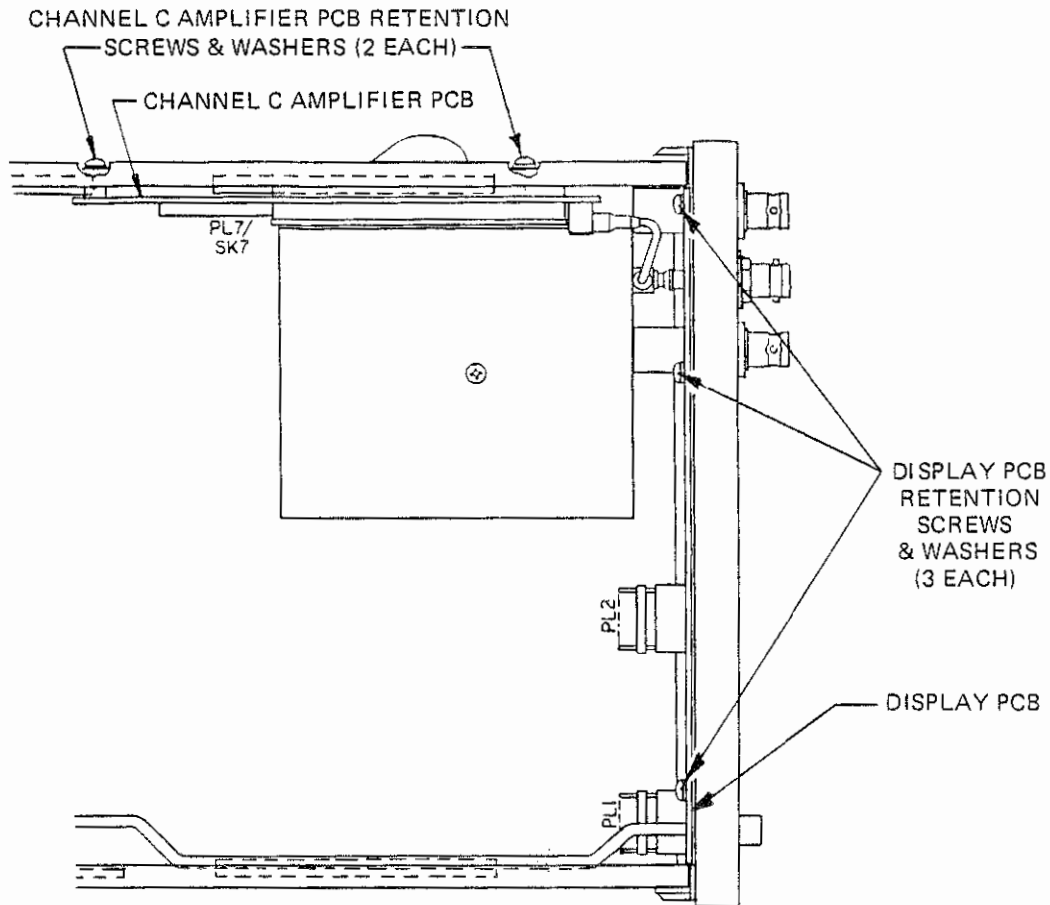

Figure 6.11 - Channel C Board and Display Board Removal
- c. Remove the two screws and washers securing Channel C's amplifier PCB to the right-hand side frame. See Figure 6.11
- c. Remove the three screws and washers securing the display board to the front panel (see Figure 6.11) and remove the board